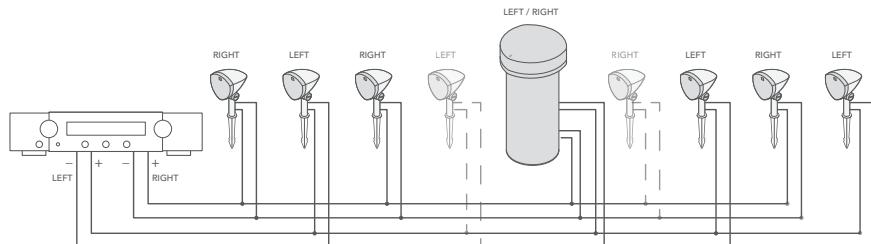

Figure 3
5. Run the speaker wire through the trench as described in the wiring instructions in section 6 "Installing the Satellite Speakers" on the next page. We recommend leaving 14-16" of excess wire per speaker so that the wire doesn't kink or pull taut when covering the wire with dirt in the trench. Figure 3 shows the wiring of a complete system using a stereo amplifier. Note that an additional pair of satellites can be purchased and installed for slightly larger applications.